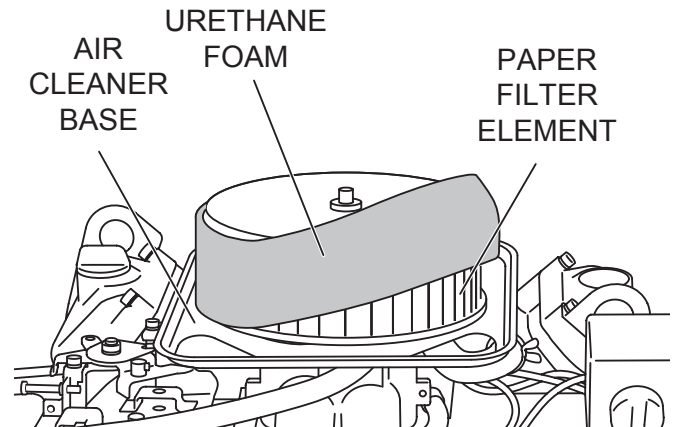

Figure 15. Removing Air Filter Urethane Foam and Paper Elements
2. Remove the air cleaner urethane foam and paper filter elements (Figure 15).